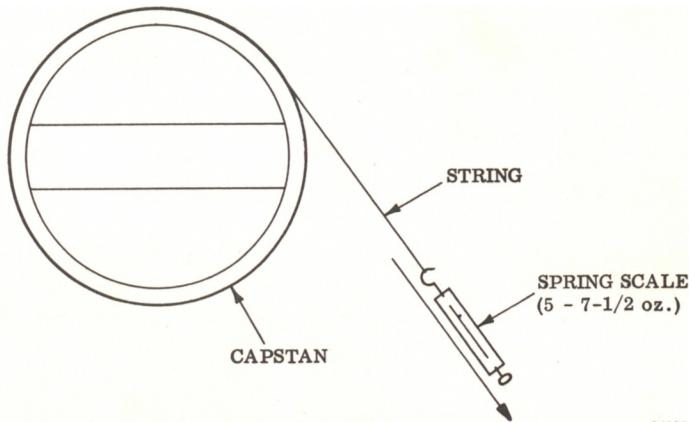

Figure 5.2-7. Capstan Static Torque Check
- e. Wrap a three foot length of string twice around the capstan. Tie the free end of the string over the hook of the spring scale and gently pull on the scale. See Figure 5.2-7. Reading on scale should be 10 to 15 inch-ounces during movement of the capstan. (Five to 7-1/2 ounces at radius of capstan.)